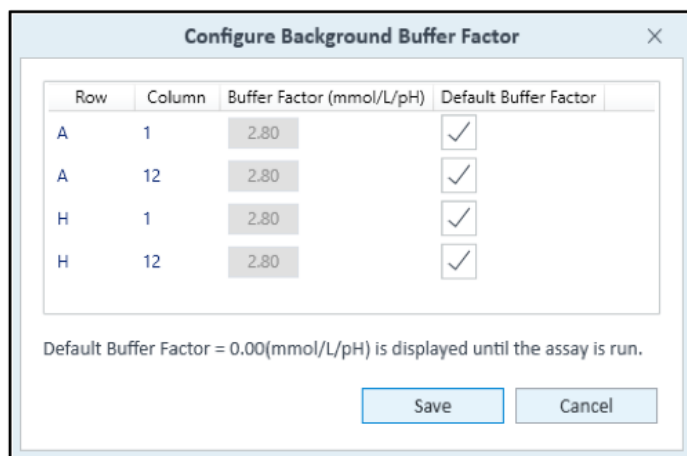

Figure 3. Configure background buffer factor.
- To configure Background Well Buffer Factor, click **Assay Media**. (See Figure 3.)
- Under the column header **Default Buffer Factor**, check the boxes next to each background well, and click **Save**. (See Figure 3.)